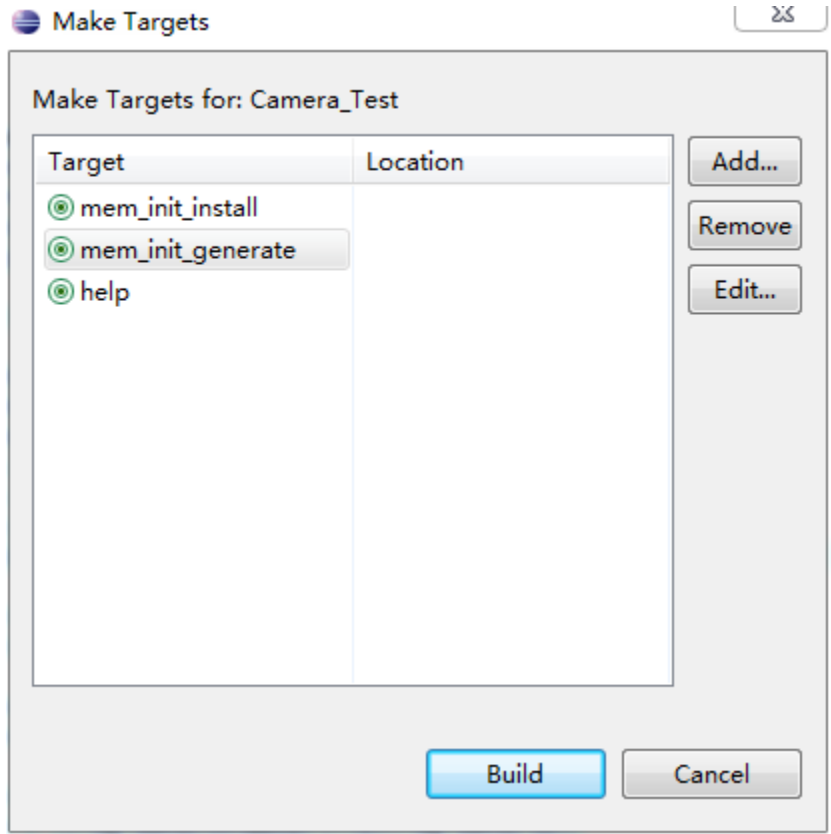

Figure 8-11 Make Target Setting
- Compile the target into initial flash format by choosing the mem_init_generate option in the Make Target window in Eclipse as shown in **Figure 8-11**.